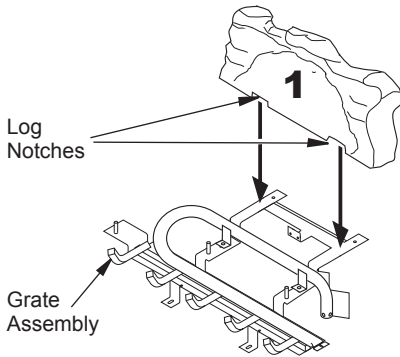

Figure 41 - Installing Log No. 1
1. Find and place log #1 (rear log) on top of grate. Make sure notches in bottom of log fit over grate (see Figure 41).